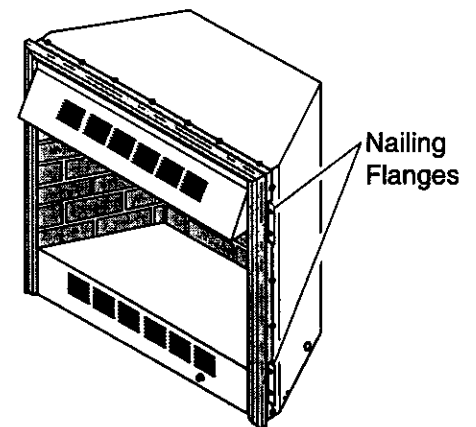

Figure 15 - Location of Nailing Flanges
7. Break off nailing flanges (see Figure 15) with hammer or pliers.